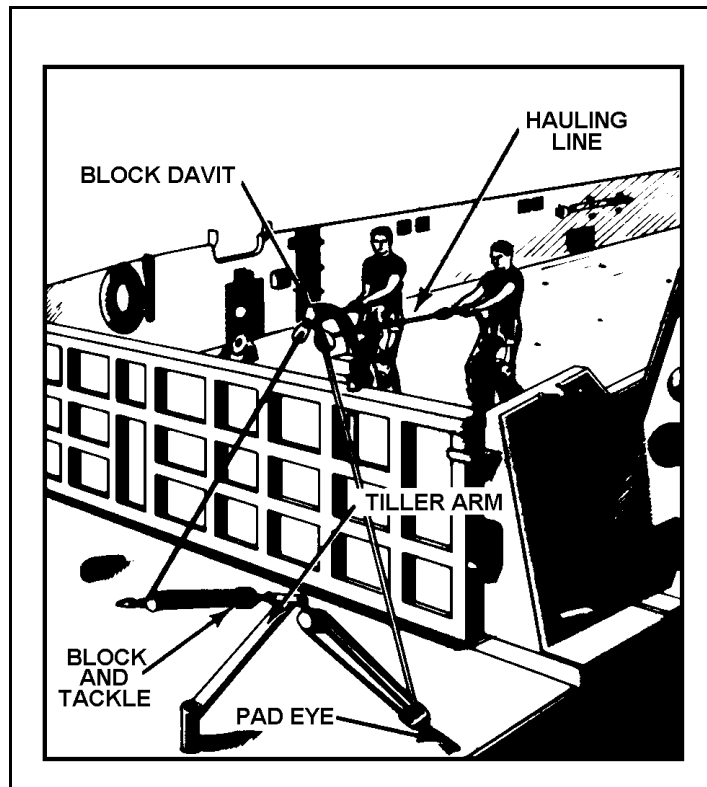

Figure 17-7. Rigging of Steering Gear
- **Step 5.** Two block-and-tackle rigs are hooked up, one to each side of the tiller arm and to the deck pad eyes. The hauling part of the line is led through the blocks secured on the portable block davit. The hauling parts of the lines are then led into the well deck (Figure 17-7, page 17-6).